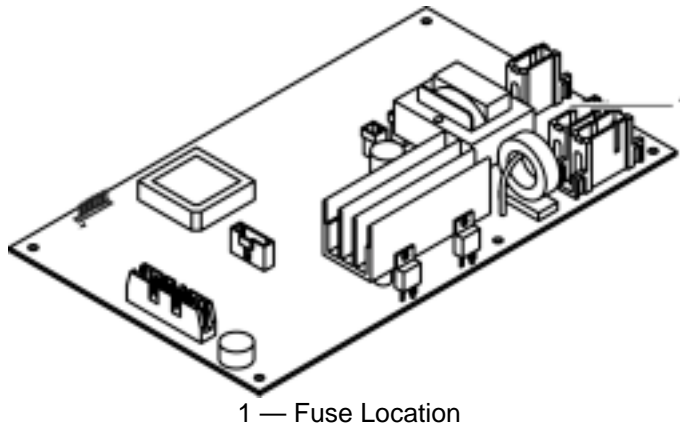

Figure 15: Fuse Location
4. Remove the fuse and insert a new fuse. See Figure 15.